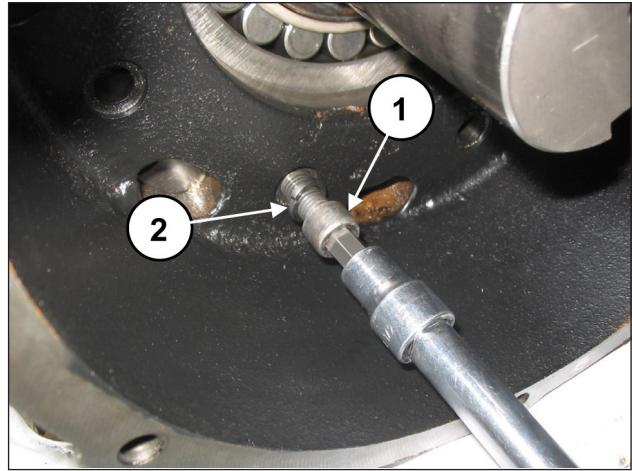
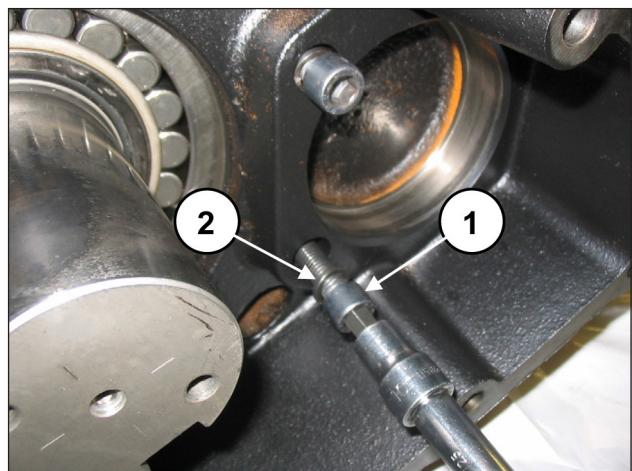
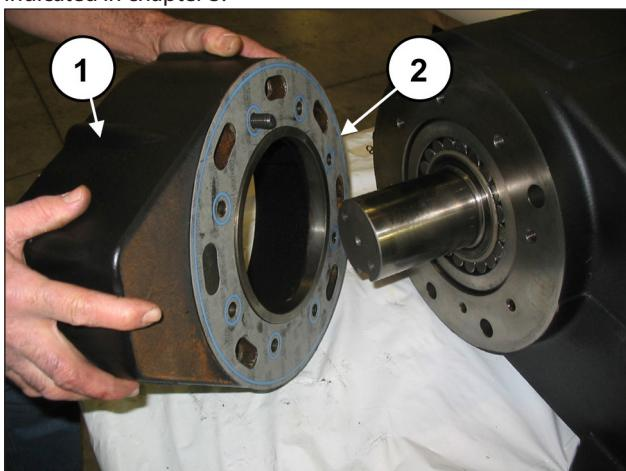

Fig. 46
Fig. 47
Fig. 45
Mount the reduction gear box (pos. ①, Fig. 45) and the gasket (pos. ②, Fig. 45) using the 6 M12x40 screws (pos. ①, Fig. 46), the 2 M12x50 screws (pos. ①, Fig. 47) and the Grower washers Ø12 (pos. ②, Fig. 46 and Fig. 47).